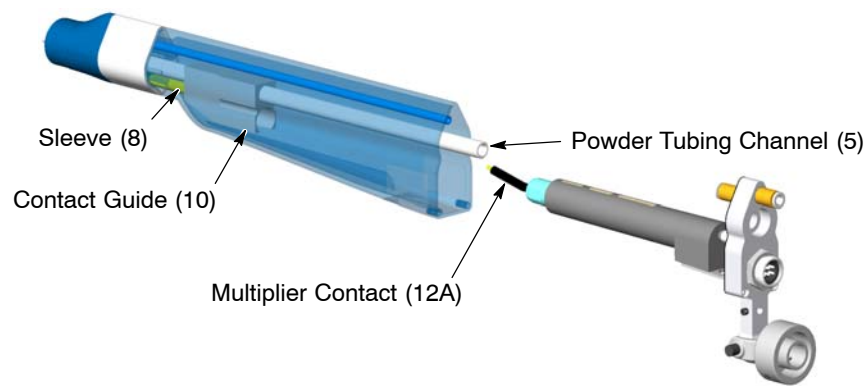

Figure 29 Multiplier Installation: Step 5
4. Install the sleeve (8) over the contact and resistor spring and onto the resistor guide, then push together the adapter (3), body tube (9), and housing (11), guiding the sleeve into the contact guide (Figure 29).
5. See Figure 29. Inject dielectric grease into the bottom bore of the contact guide, then slide the contact guide onto the powder tube channel and into the housing until it seats on the sleeve.
6. Install the heat sink/multiplier assembly into the housing, make sure the tip of the multiplier contact (12A) slides into the contact guide (10).